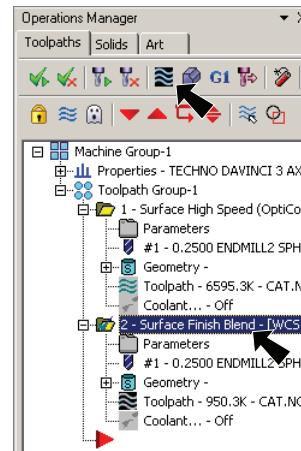

Fig. 36
Step 1. Click **Surface Blend** in the Toolpaths Manager to select **only Blend** toolpath, Fig. 36.